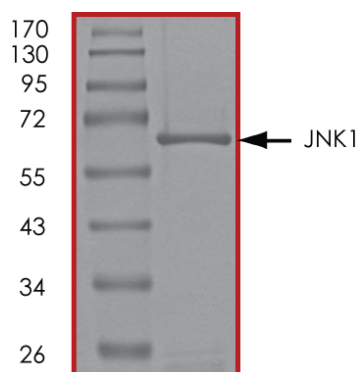

Figure 1: The approximate molecular weight is 70 kDa and the purity is > 95%.
- Molecular Mass** ♦ The approximate molecular weight is 70 kDa (see Figure 1 below).
- Purity** ♦ The purity was determined to be > 95% by densitometry (see Figure 1 below).